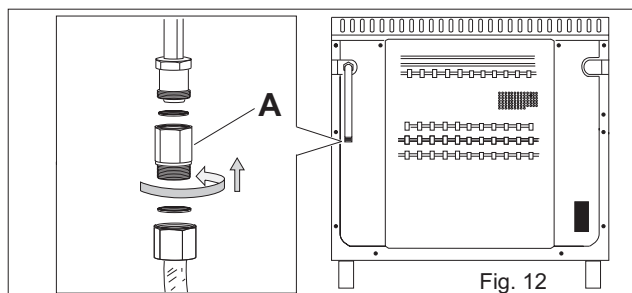

Fig. 12
WARNING: connect the gas to the oven's gas supply line using the supplied connector (A) (see figure 12)